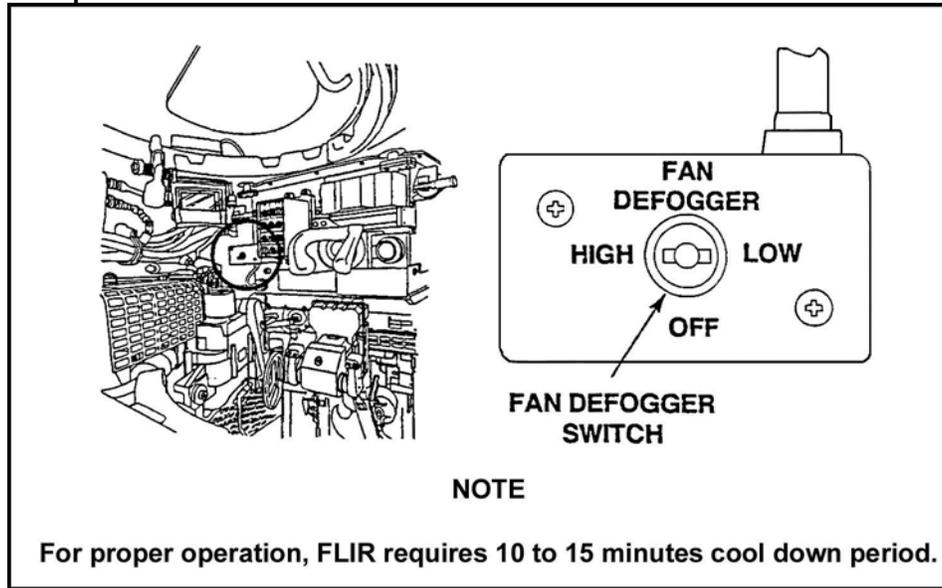

Figure 17. Fan defogger switch.
(7) During normal operating conditions, ensure the IBAS defogger fan switch is in the OFF position (Figure 17).